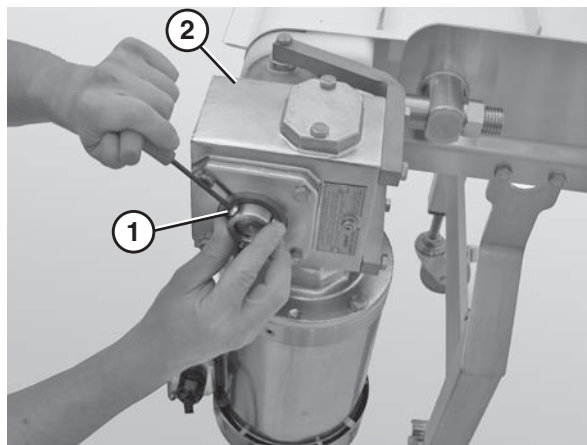

Figure 52
2. Use a 5 mm hex wrench to loosen the outside button head screws (Figure 52, item 1) and the inside button head screws (Figure 52, item 2) that connect the gearmotor to the drive spindle.